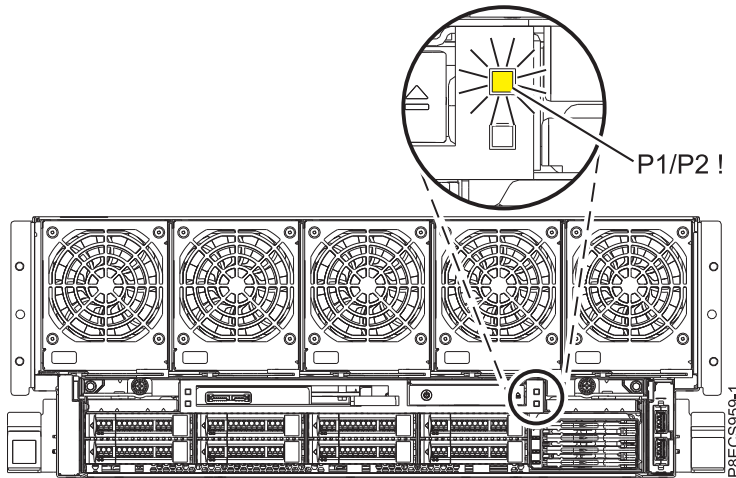

Figure 1. Front **P1/P2 !** fault roll-up LED on the 8408-44E or 8408-E8E system
5. Note the state of the **P1/P2 !** fault roll-up LED, which is located on the front of your 8408-44E or 8408-E8E system as shown in Figure 1.